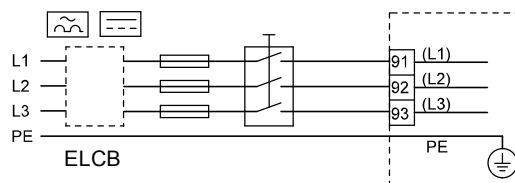

Fig. 7 Example of three-phase mains connection of CUE with main switch, backup fuses and additional protection
- Leave the screen as close to the connecting terminals as possible. See fig. 7.